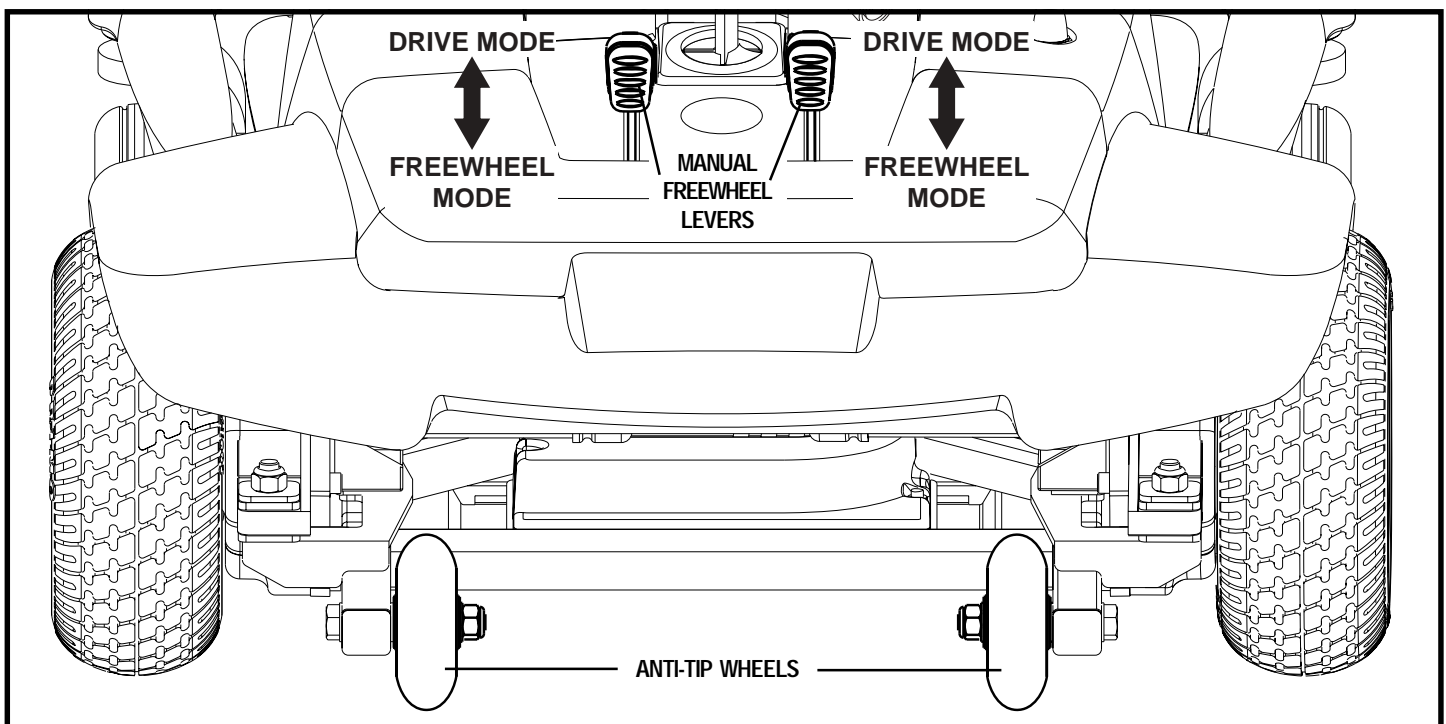

Figure 7. Back of Power Base
1. Locate the levers on the rear section of the power base. See figure 7.
2. Push the two levers forward to engage the drive motors (drive mode). See figure 7
3. Pull the two levers backward to disengage the drive motors (freewheel mode). See figure 7.
The anti-tip wheels are an integral and important safety feature of your power chair. They are bolted to the frame at the rear of the power base. See figure 7.